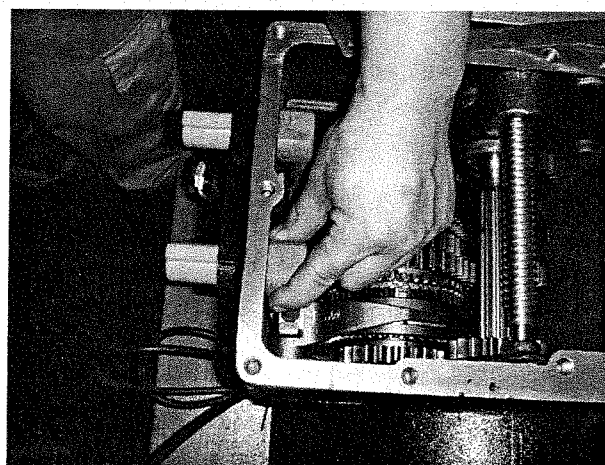

Fig 2-19
(7) Gently knock at the head of rotary rod (Attention: Not to be heavily opened), and taken off the rotary rod (Fig 2-19).